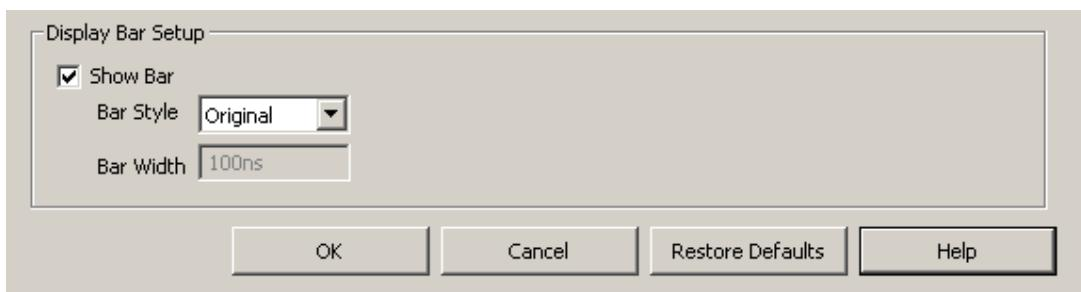

Fig4-146 - Display Bar Setup
- Click **Show Bar** to know the length of the tested and deleted signal as shown in Fig4-146 below.